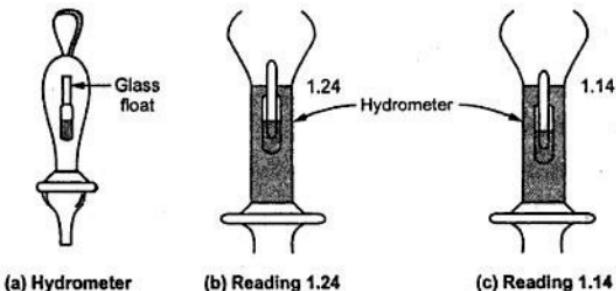

Fig. 1.26 Testing lead acid battery
1. Using hydrometer : The testing basically involves the checking of specific gravity of the sulphuric acid. It can be checked by the use of hydrometer. The hydrometer consists of a glass float with a calibrated stem placed in a syringe. The readings on hydrometer are shown in the Fig. 1.26.